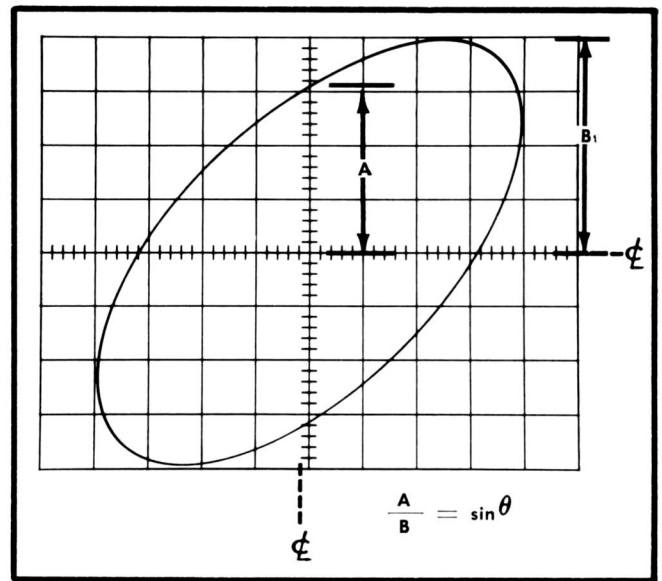

Fig. 3-6. X-Y method of calculating phase difference ( $\theta$ ) of two sine waves.
- (c) Measure the distances A and B on the display as shown in Fig. 3-6. A/B is equal to the sine of the phase difference between the two signals (see Table 3-1).